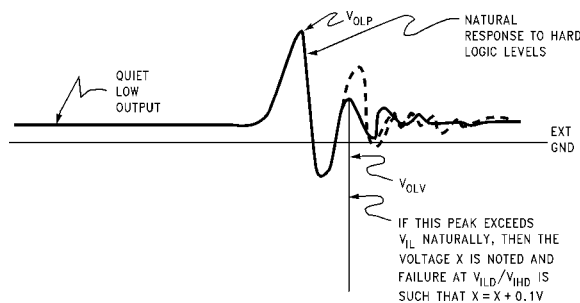

FIGURE 8. Ground Bounce Causes Dynamic Threshold
- If the natural ringing, other than initial switching rail bounce, of the output violates the previous two criteria then the ringing amplitude will be noted. Failure is then defined as a 100 mV movement in the output toward the threshold from the peak ringing amplitude, (Figure 8).